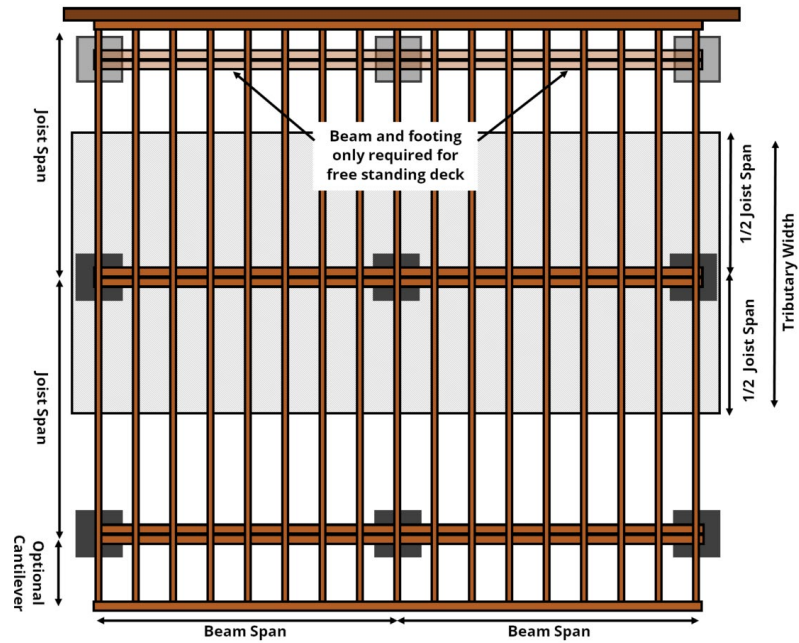
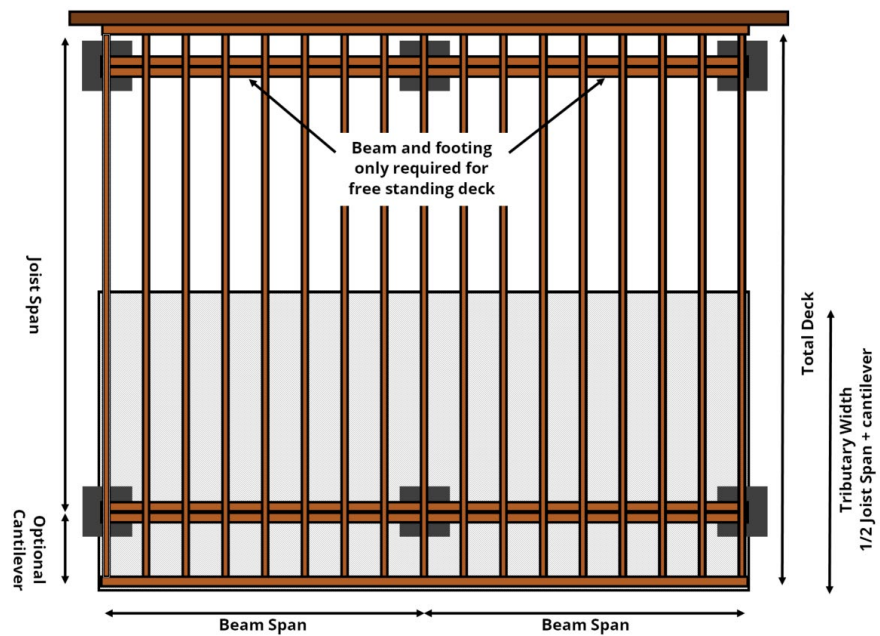

FIGURE 8 - DOUBLE- SPAN DECK PLAN FIGURE
FIGURE 9 - SINGLE SPAN DECK PLAN FIGURE
- Single span decks are framed with joists that have one span between beams (not including overhang) as shown in Figure 9.
- Multi-span decks (maximum of two spans) have joists with more than one span which bear on multiple beams as shown in Figure 8.
Tributary Width = ½ longest joist span ₁ + ½ longest joist span ₂ + cantilever (See Figure 8 and Figure 9)
- Beam span length, as shown in Figure 8, is measured between the centerlines of two adjacent posts and does not include the beam overhangs.
Tributary Width (ft) (See Figure 8 and Figure 9)	Longest Beam Span (feet)
- Joist span is measured from the ledger board to center of supporting beam, or between the center of the supporting beams at each end of the joist as shown in Figure 8 and 9.